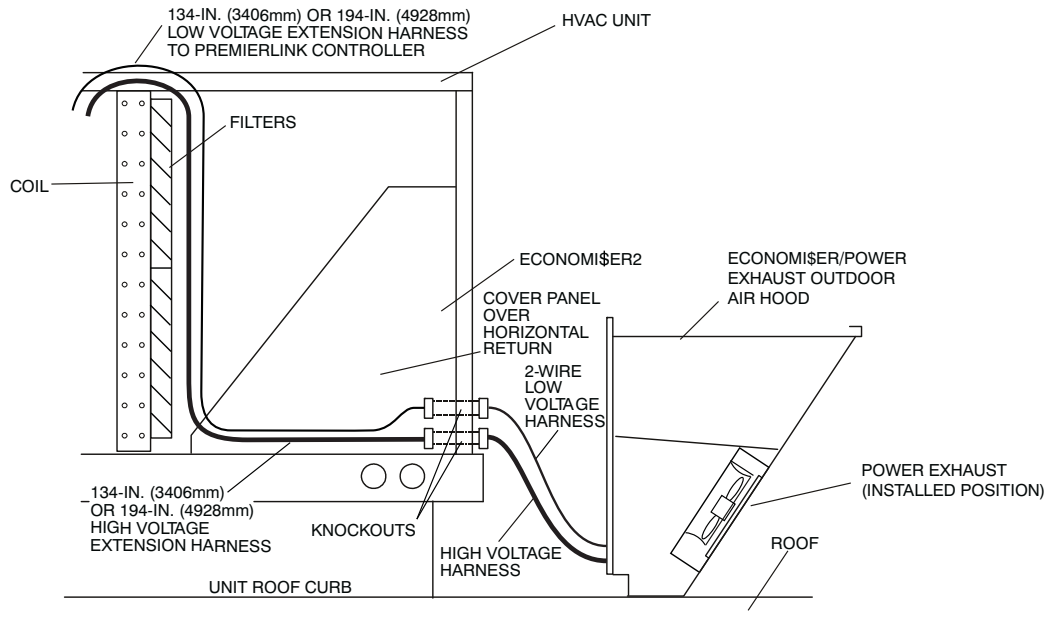

Fig. 8 - Power Exhaust Harness Installation with EconomiSer2 and PremierLink Controls
3. From the rear of the Economi\$er2, connect the low voltage extension harness plug to the two-wire harness from the power exhaust. (See Fig. 8.)
4. Route the other end of the of the low voltage extension harness to the PremierLink controller. (See Fig. 8.)
7. From the rear of the Economi\$er2, connect the long high voltage extension harness plug to the power exhaust harness. (See Fig. 8.)